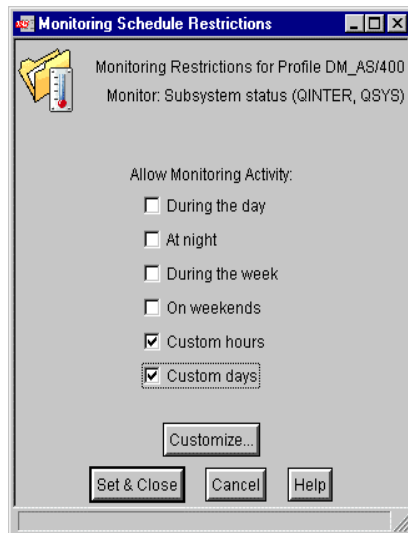

Figure 281. Choosing custom times and days
14. The Monitoring Schedule Restrictions screen allows us to choose the times during which we want the monitor to run. We want to set our own customized hours of operation from 7:00 a.m. to 11:00 p.m., Monday through Saturday. To do this, select the **Custom Hours** and **Custom days** checkbox, as shown in Figure 281.